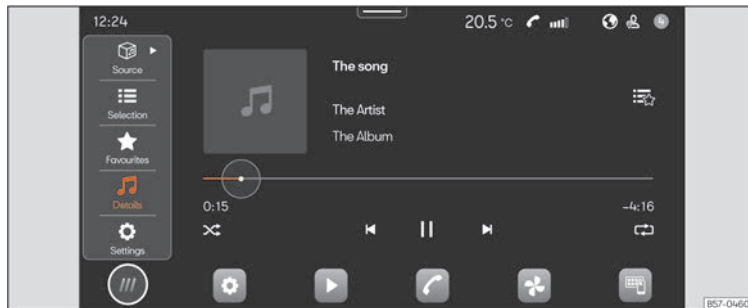

Fig. 141 Schematic diagram: Media view
- Press **HOME** > ► >>> **Fig. 141**.